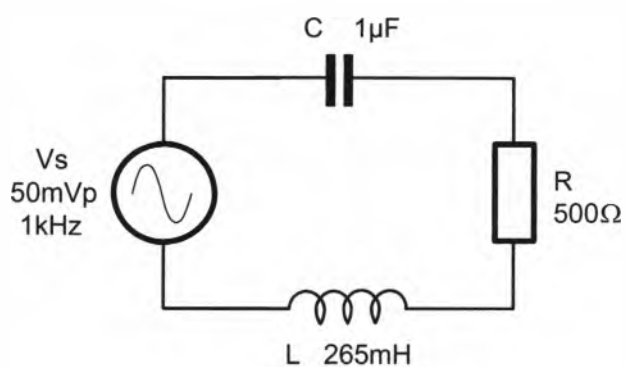

Figure 6
18. For the circuit of Figure 6, calculate:
19. Draw the impedance triangle for the circuit of Figure 6 at the frequency given.